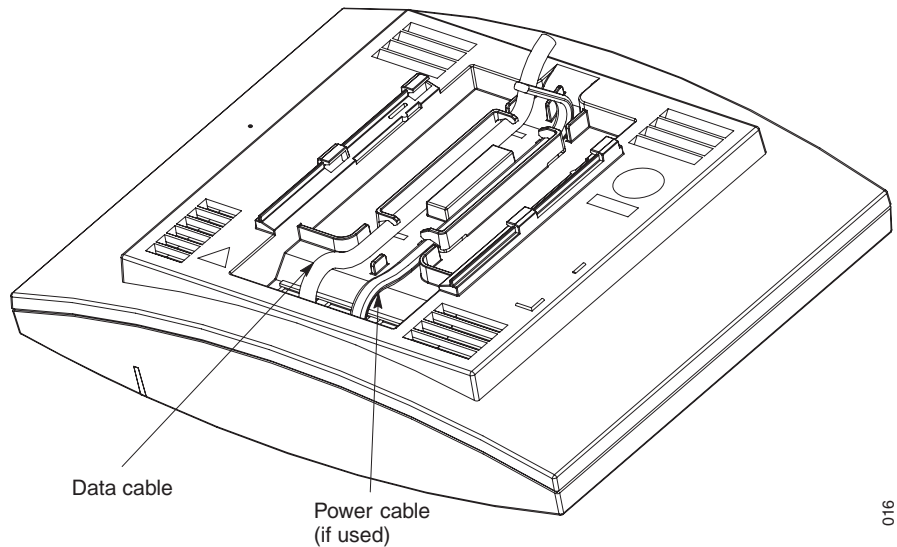

Figure 10. Cables entering centrally from above
- 1 If it is required that the cables enter the base station centrally from above, guide the cables through the recess in the middle of the base station as shown in figure 10 on page 18.